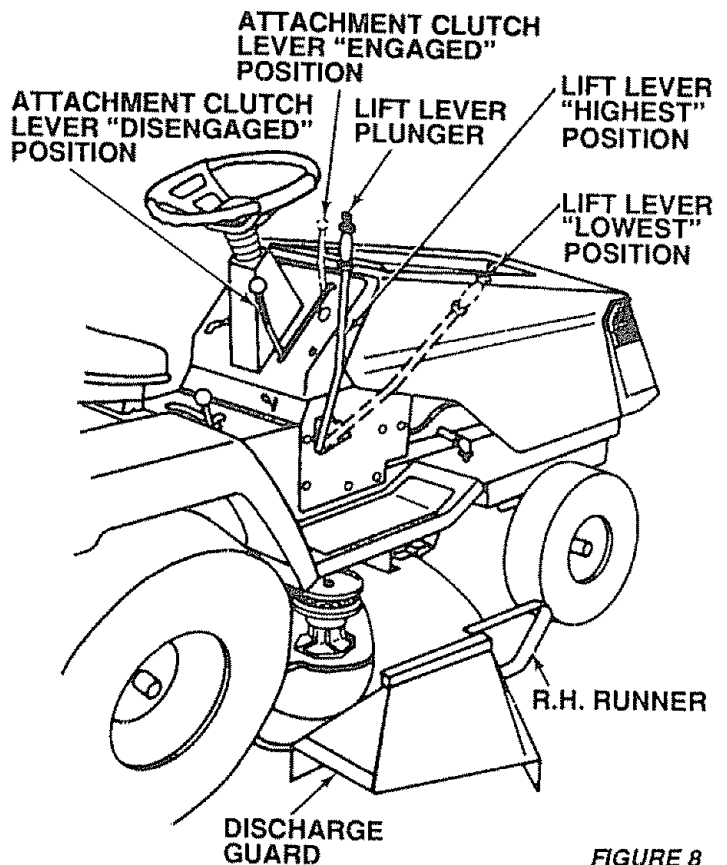

FIGURE 8
- Depress lift lever plunger and move the attachment lift lever to the highest position. See Fig. 8.
- Move throttle lever to half throttle and slowly move attachment clutch lever to engaged position, Fig. 8.
- Use the runner on the R.H. side as a guide; the blade cuts approximately an inch (2.54 cm) outside the runner (Fig. 8).